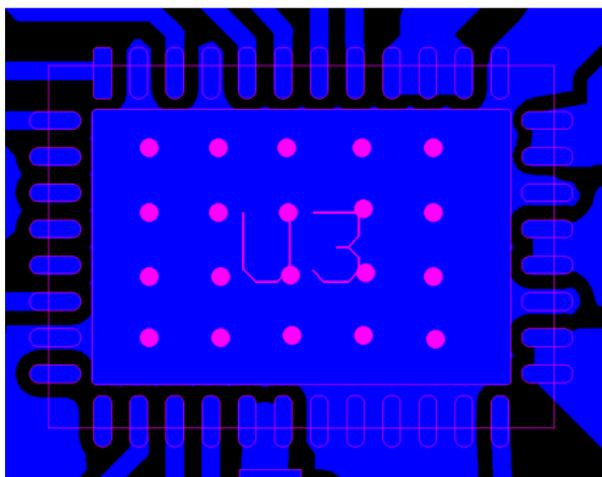

Figure 2-11. MCF831X PCB With Few Vias
2. MCF831x has Thermal Pad, we need to use MCF831x as much as possible to dissipate the heat through the common. Note it is important to transfer heat to other PCB layers through as many vias as possible. (As shown in Figure 2-11, the PCB on the right is better).and open solder mask in the vias, which help transfer the heat of the MCF831x through the thermal pad to the copper on the PCB. And use multi-layer boards as much as possible to provide more heat dissipation area.